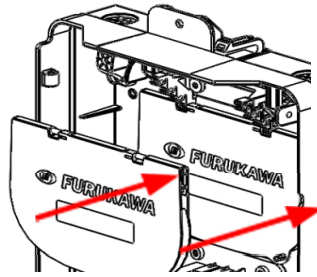

Figure 28
- 1.7.1 Install the splice trays as needed (Fig.28);